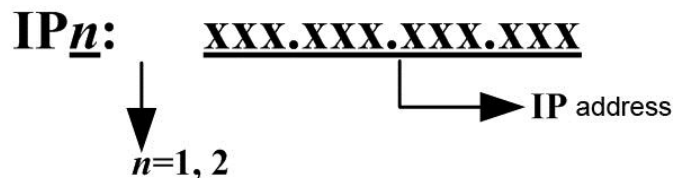

Figure 3-6 BMC IP address format
- To enter the BMC IP ADDRESS L2 menu, the LCD module displays BMC IP1 : xxx.xxx.xxx.xxx (xxx.xxx.xxx.xxx indicates the specific IP address), shown as the figure 3-6.